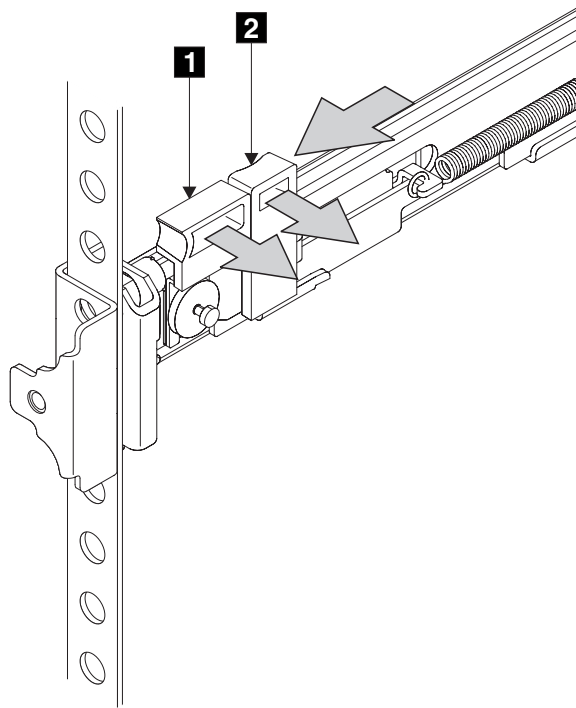

Figure 45. Closing the latch-lock carrier assembly
8. Push the latch lock **2** (Figure 45) away from the rail to release the carrier. The latch-lock carrier slides toward the front of the rack and the locating pins project through the holes that are in the front flange and in the front rail bracket.